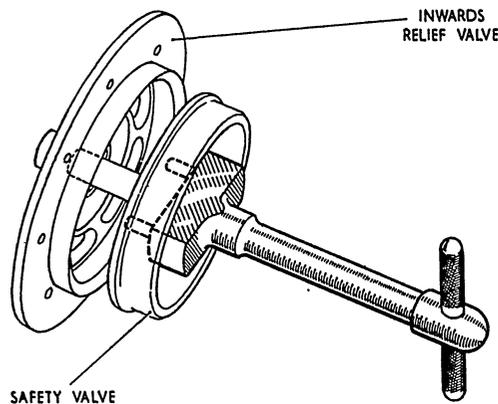

Fig. 11. Peg spanner ST.5007
(1) Safety valve.—Examine the head of the safety valve and the seating on the inwards relief valve for nicks and burrs. Lap the valve on to its seating, supporting the valve head with the peg spanner ST.5007 (fig. 11). Use fine grinding paste for lapping the valve and metal polish for the final finish. Inspect the safety valve stem and guide in accordance with the schedule of fits and clearances (Table 1).